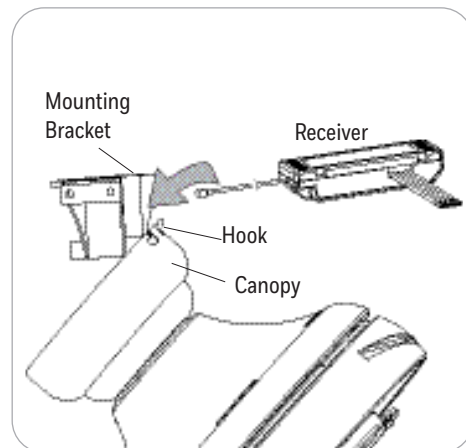

Figure 4.3
3. Raise the motor assembly and place the canopy on the hook of the mounting bracket to free hands during the wiring process. Insert the receiver into the mounting bracket with the flat side facing the ceiling (Figure 4.3).